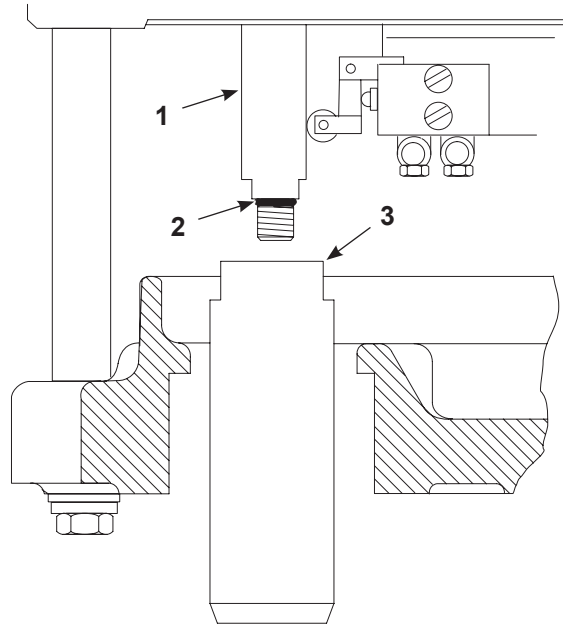

Figure 6-5 Plunger Replacement
2. See Figure 6-5. Use two wrenches to unscrew the plunger (3) from the piston shaft (1).
3. Remove and discard the piston shaft O-ring (2).